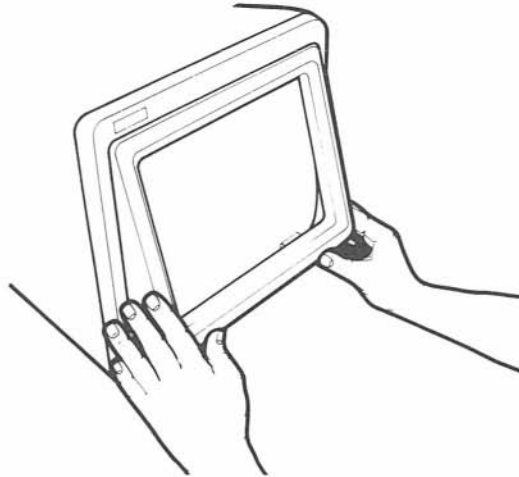

Figure 10-6. Attaching HP Touch.
7. Placing your thumbs under the lower corners of HP Touch, push up and toward the monitor until HP Touch snaps firmly into place. Make sure that the cable does not protrude from HP Touch. If it does protrude, pull out the bottom edge of HP Touch, push the cable under and snap HP Touch back into place (Figure 10-6).